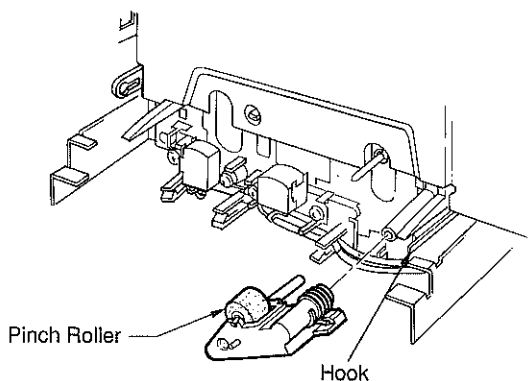

Fig. 5
a. Detach the hook in fig. 5 and remove the pinch roller.